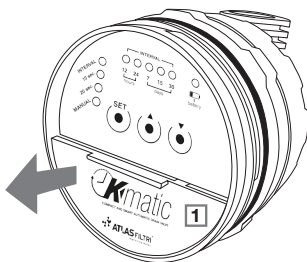

figure 1
- Open the battery compartment (1) by removing the cover located in the lower half of the front of the programmer (**figure 1**)